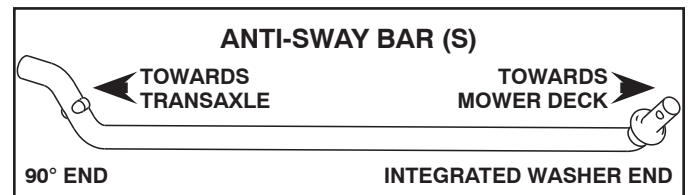

Fig. 8
## 5. INSTALL ANTI-SWAY BAR (S) (IF EQUIPPED) (See Fig. 8 - 11)